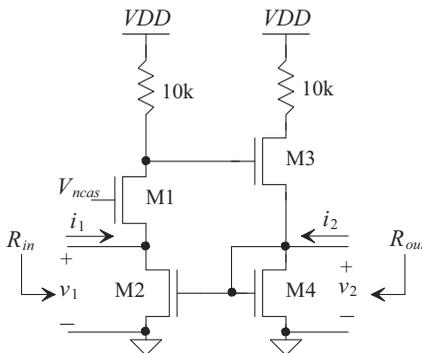

Figure 31.59 A shunt-shunt feedback amplifier.
31.16 A shunt-shunt feedback amplifier is shown in Fig. 31.59. (a) Identify the feedback topology by labeling the input mixing variables and the output variables, (b) verify that negative feedback is employed, (c) draw the closed-loop small-signal model, and (d) find the values of $R_{\beta i}$ and $R_{\beta o}$.
31.17 Using the shunt-shunt amplifier shown in Fig. 31.59 and the results from problem 31.16, (a) draw the small-signal open-loop model for the circuit and (b) calculate expressions for the open-loop parameters, A_{OL} , β , R_p and R_o and (c) the closed-loop parameters, A_{CL} , R_{in} , and R_{out} .
- 31.22** Convert the shunt-shunt amplifier shown in Fig. 31.59 into a shunt-series feedback amplifier without adding any components. (a) Identify the feedback topology, (b) verify that negative feedback is employed, (c) draw the closed-loop small-signal model, and (d) find the values of $R_{\beta i}$ and $R_{\beta o}$.